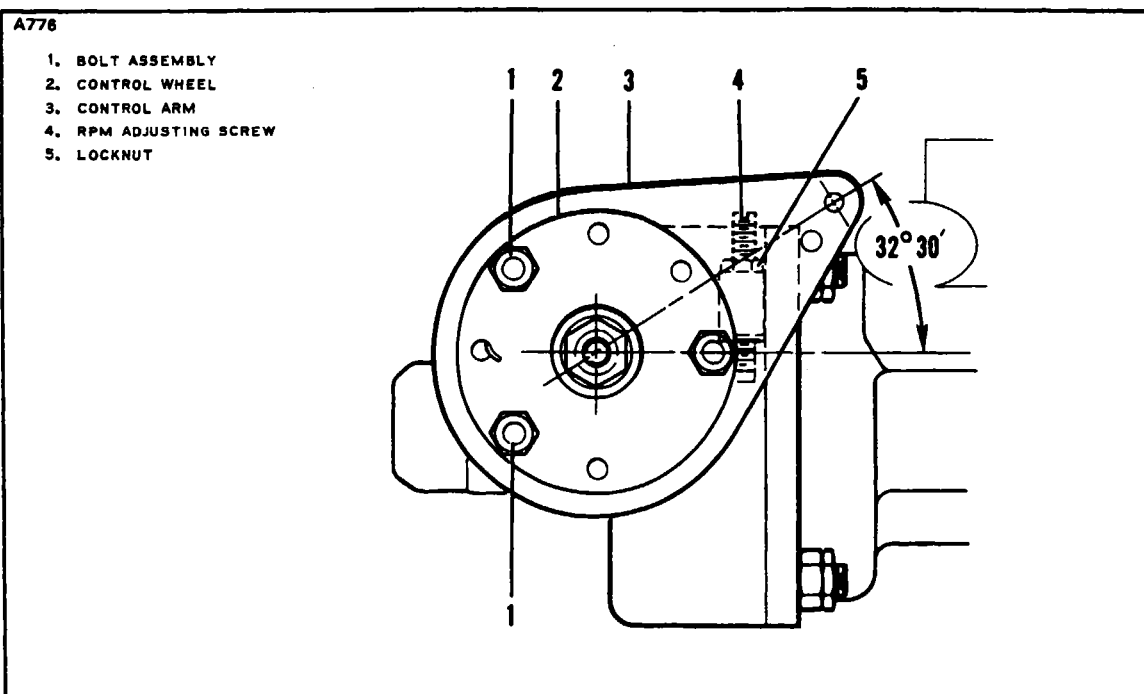

Figure 8-5. Propeller Governor
8-30. RIGGING AND ADJUSTMENT OF PROPELLER GOVERNOR. (Refer to Figure 8-5.)
5. Ascertain that the governor control arm (3) is adjusted to the proper angle on the control wheel (2) as shown in Figure 8-5.